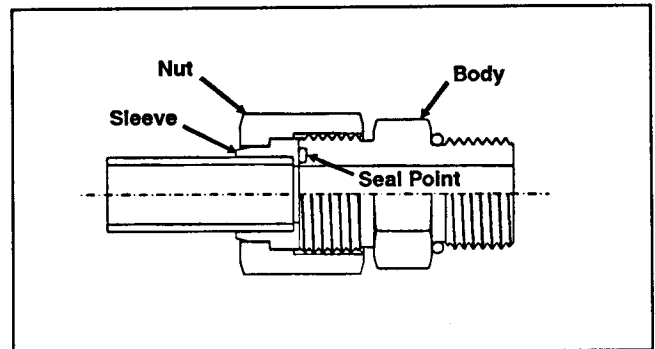

Figure 1
1. Make sure both threads and sealing surfaces are free of burrs, nicks, scratches, or any foreign material (Fig. 1).